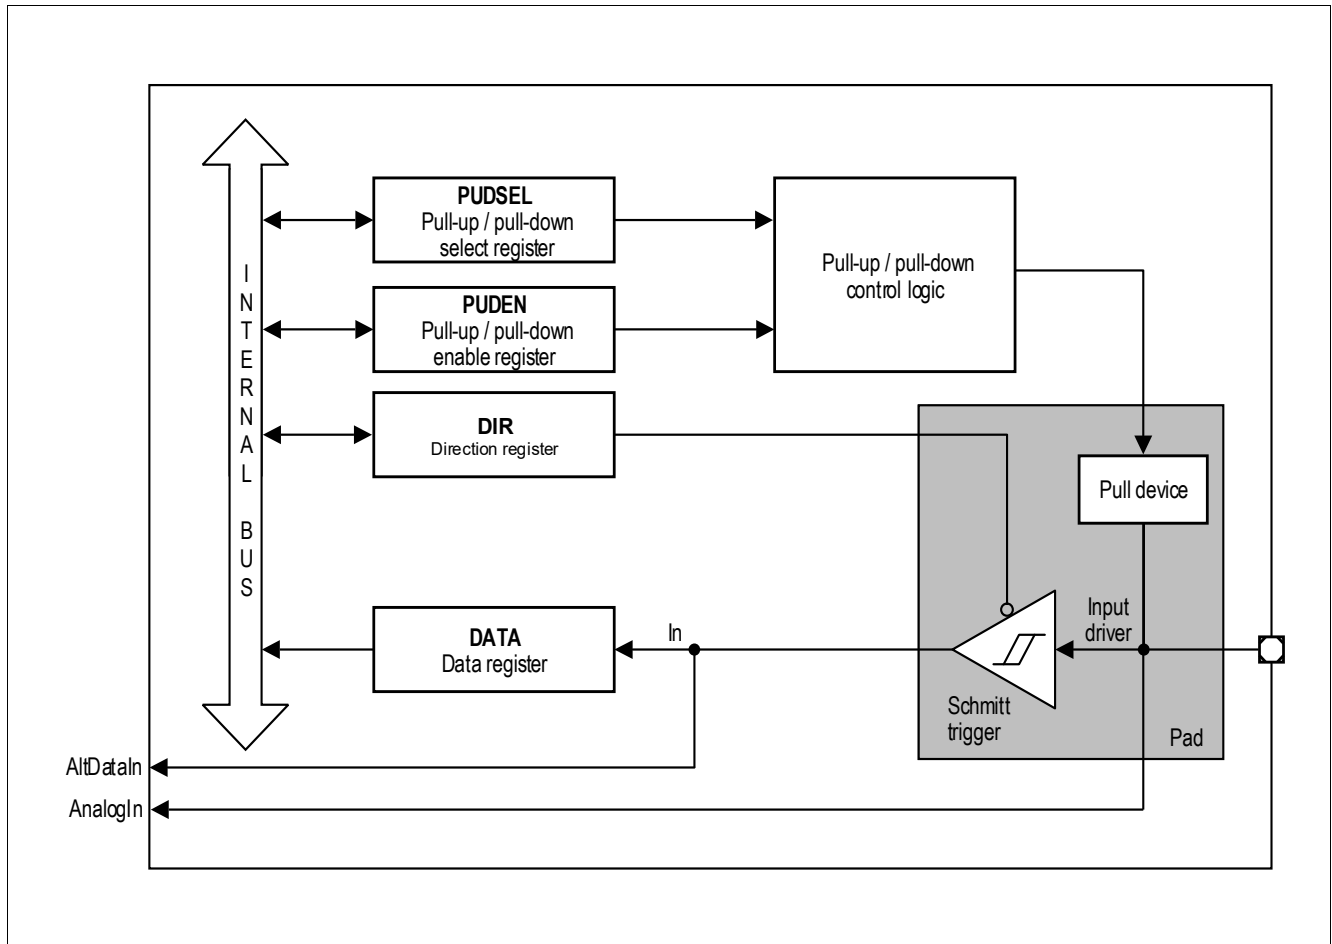

**Figure 16** General structure of a bidirectional port (P0, P1)
**Figure 16** shows the block diagram of a TLE9873QXW40 bidirectional port pin. Each port pin is equipped with a number of control and data bits, thus enabling very flexible usage of the pin. By defining the contents of the control register, each individual pin can be configured as an input or an output. The user can also configure each pin as an open-drain pin with or without an internal pull-up/pull-down.